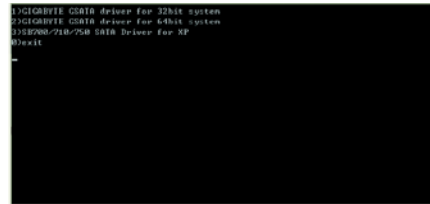
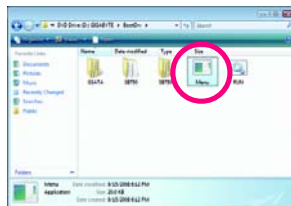

Figure 2
Figure 3
Step 2: When the controller menu (Figure 2) appears, remove the startup disk and insert the blank formatted disk. Select the controller driver by pressing the corresponding letter from the menu. For example, from the menu in Figure 2, to install Windows XP to your RAID/AHCI hard drives, select 3) SB700/710/750 SATA Driver for XP and press <Enter>. Your system will then automatically copy this driver file to the floppy disk. Press any key to exit when finished.
Use an alternative system and insert the motherboard driver disk. From your optical drive folder, double click the **MENU.exe** file in the **BootDrv** folder (Figure 3). A command prompt window will open similar to that in Figure 2.